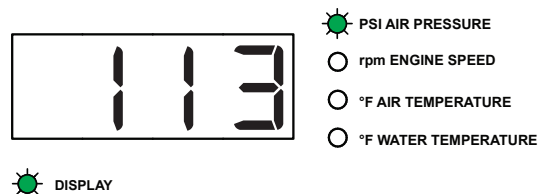

Figure 24. No Load Mode
9. Verify that the compressor air pressure has increased (Figure 24) by reading the value on the 7-segment display